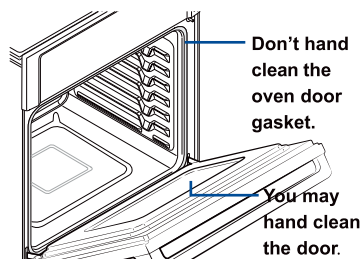

Fig. 2
- Do not clean the gasket.The fiberglass material of the oven door gasket cannot withstand abrasion. It is essential for the gasket to remain intact. If you notice it becoming worn or frayed, have it replaced. (Fig. 2)